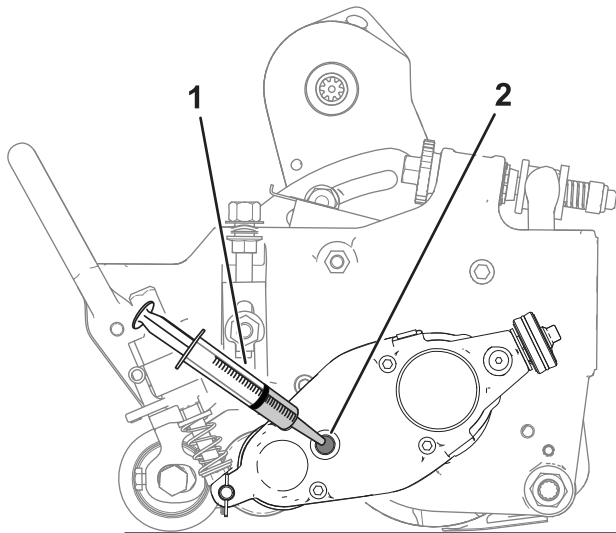

Figure 24
6. Slowly rock the cutting unit back and forth to ensure that the oil has completely drained from the housing. When the oil is completely drained, place the cutting unit on a level surface as shown in Figure 24.
8. Use a syringe (Part No. 137-0872) to fill the drive box with 50 cc of 80-90W oil (Figure 24).